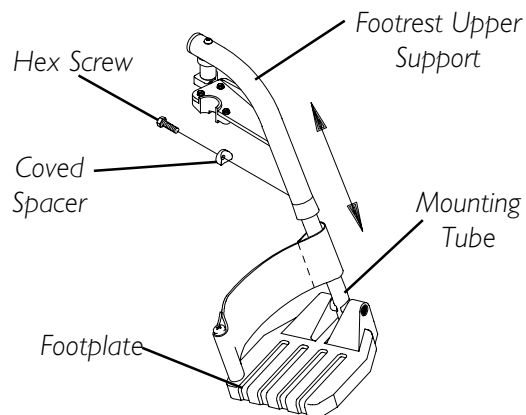

FIGURE 2 - ADJUSTING SWINGAWAY FOOTREST HEIGHT - 60° , 70° AND 70° TAPER
60°, 70° and 70° TAPER (FIGURE 2)
3. Reassemble the hex screw and covered spacer through the footrest upper support and mounting tube as shown in FIGURE 2.